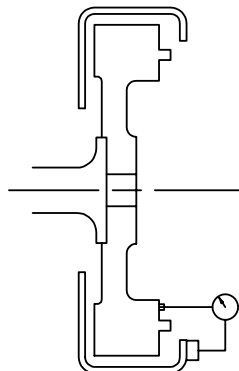

Figure 3. Checking Driving Ring Surface of Flywheel
6. Remove the indicator base from the flywheel and bolt it to the flywheel housing face. Position the indicator stem so that it rides where the drive ring will set on the flywheel face. See Figure 3.